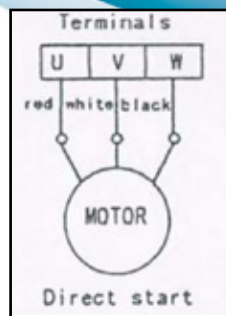

Figure 3
- a) Wiring should be performed as indicated in Figure 3.